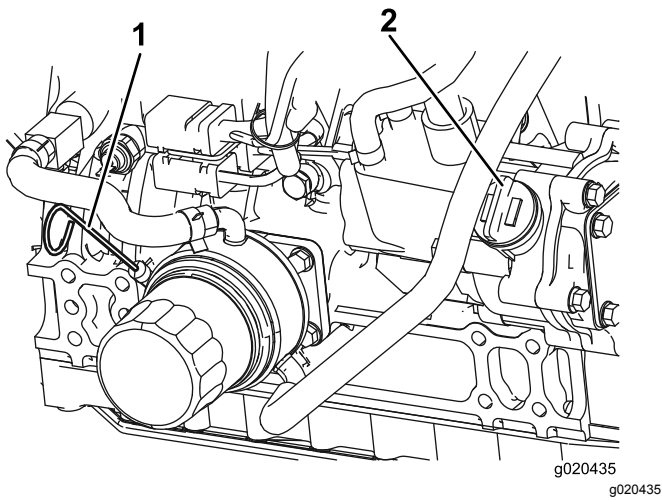

Figure 61
The oil level should be in the safe range (Figure 61).
4. If the oil is below the safe range, remove the fill cap (Figure 61) and add oil until the level reaches the Full mark.